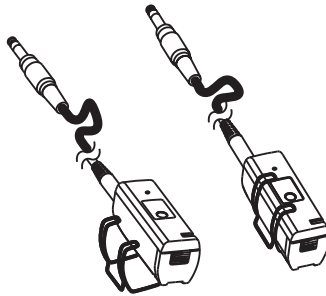

Fig. 40-3
- (C) Install the clip on MT-58, Fig. 40-3.